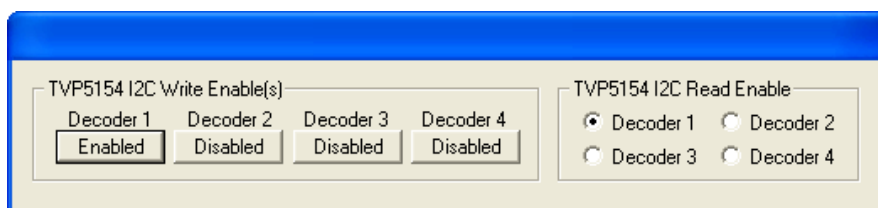

Figure 6. Decoder I²C Write and Read Enable
- The TVP5154 I²C Write Enable(s) and Read Enable pop-up window is displayed as shown in Figure 6. This is used to select which decoder or decoders (any combination of all four) will receive I²C Write commands, and which decoder (only one) will receive I²C Read commands. Decoder 1 is Enabled by default; enable the other three decoders by clicking on each decoder's enable button.